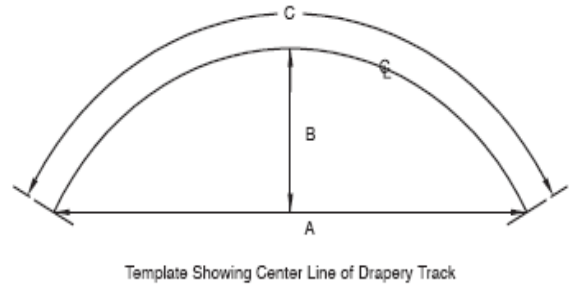

Figure 3
10. The following measurements are critical to the precision of computerized track curving (see fig. 3):